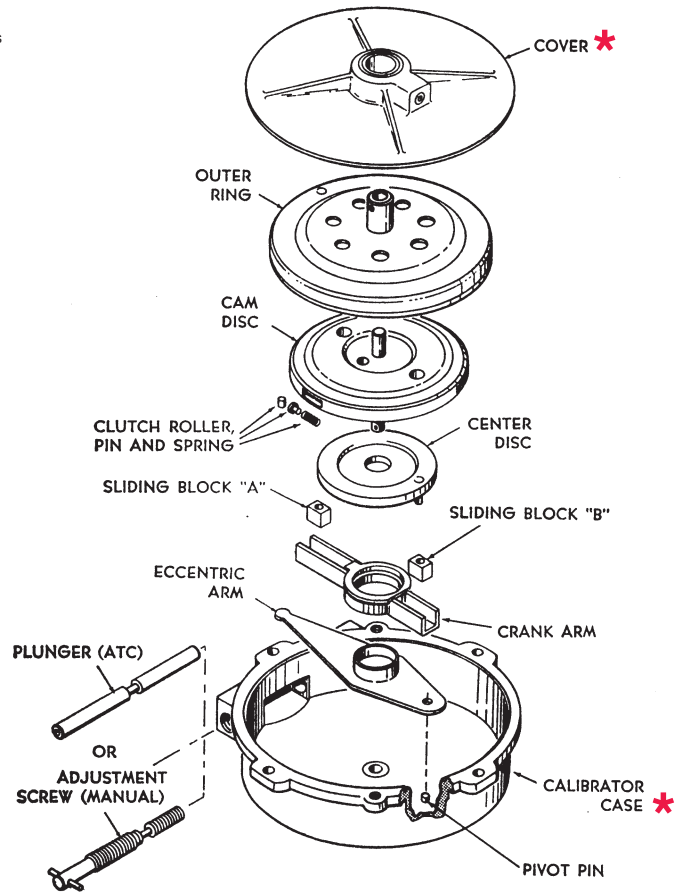
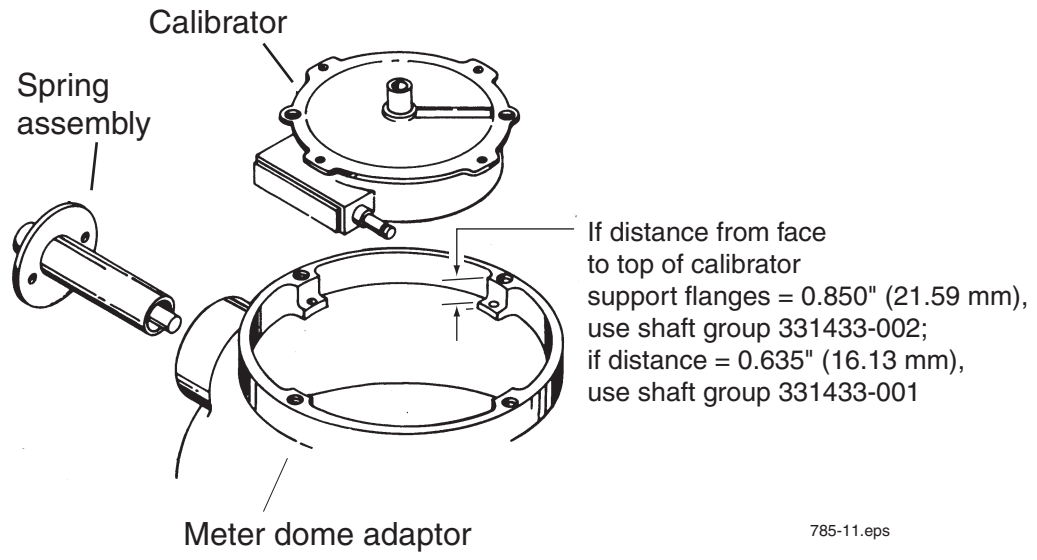
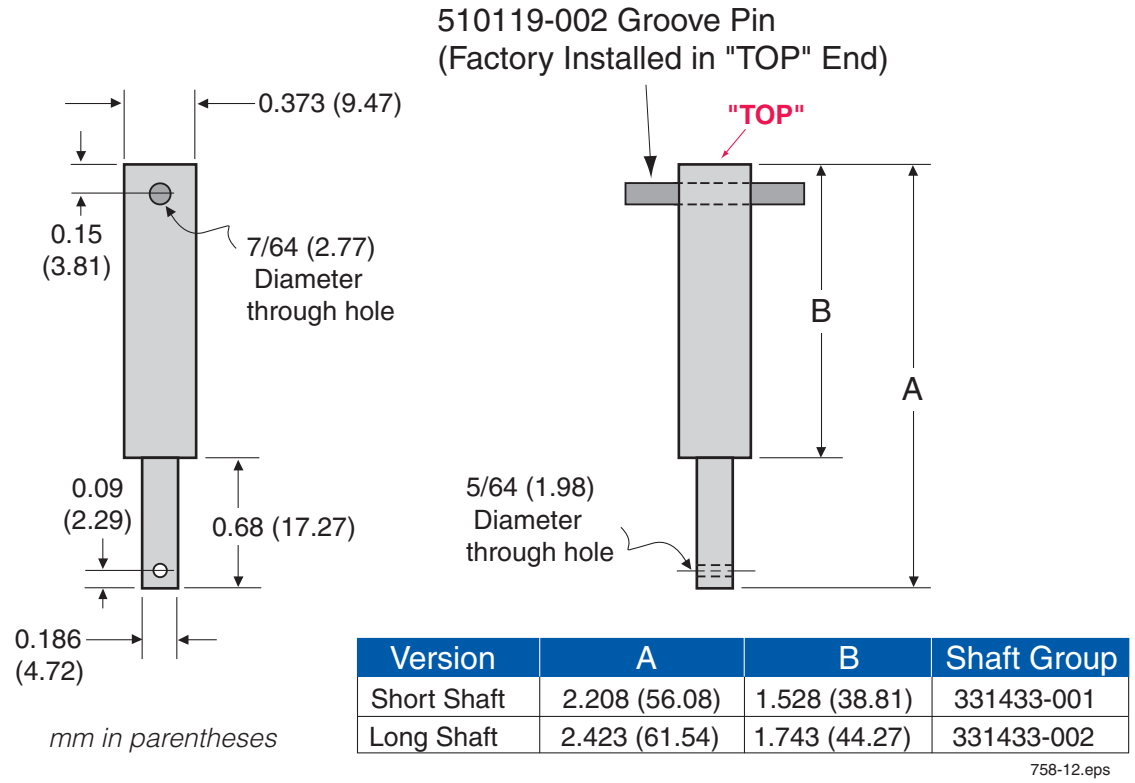
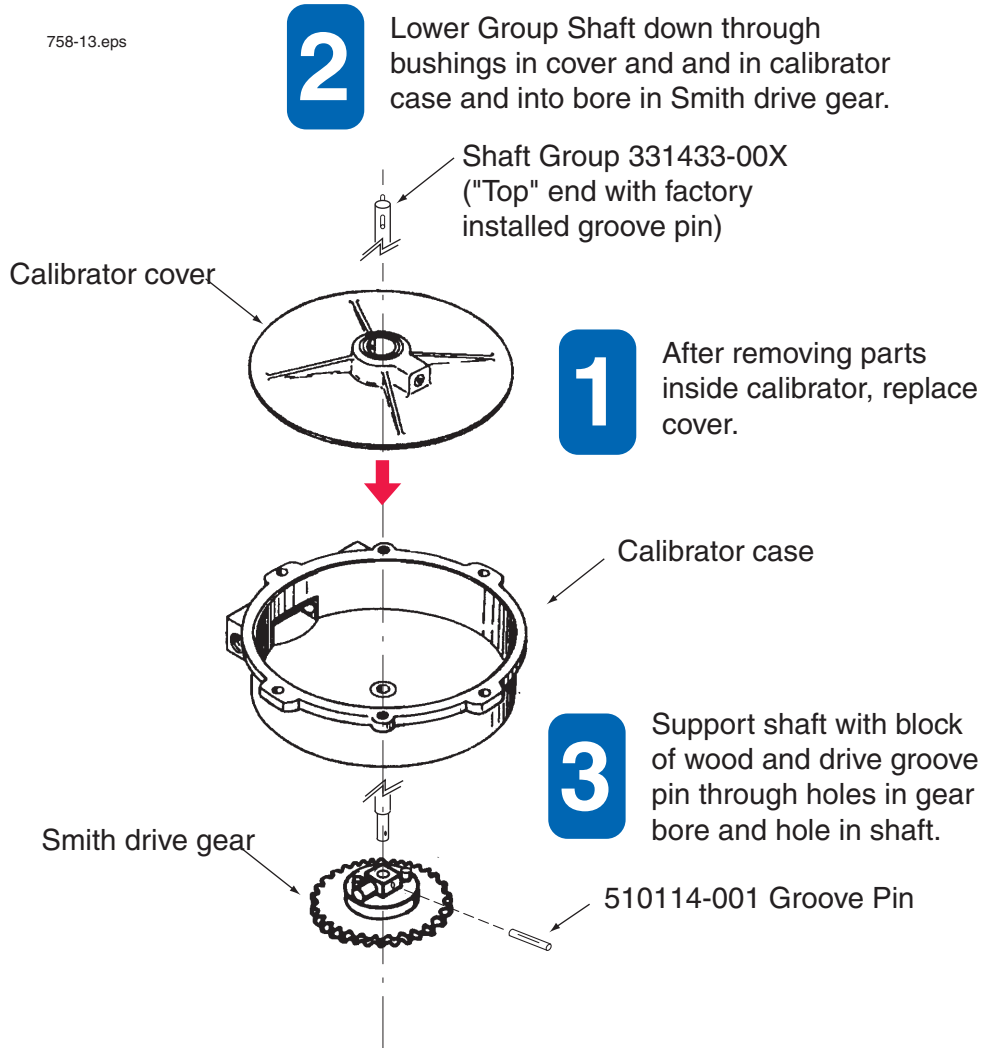

Figure 10. Disassembling The Smith Meter Calibrator
Figure 11. Calibrator, Spring Assembly, And Meter Dome Adapter
Figure 12. Adapter Shaft And Groove Pin For Smith Meter
Figure 13. Reassembling The Smith Meter Calibrator
Table 4 lists the parts included in the EMR3 approved adapter kit. In addition to “Installation Procedure” on page 6, see Figure 10 on page 16, Figure 11 and Figure 12 on page 17, and Figure 13 on page 18 for instructions on how to disassemble then reassemble the calibrator.
1. Remove and put aside the four mounting bolts holding the meter register assembly to the meter adapter [see Figure 13]. Remove the existing mechanical register.
5. Remove the mechanical meter register and the (4) temperature compensator bolts. Take out the compensator gear assembly.